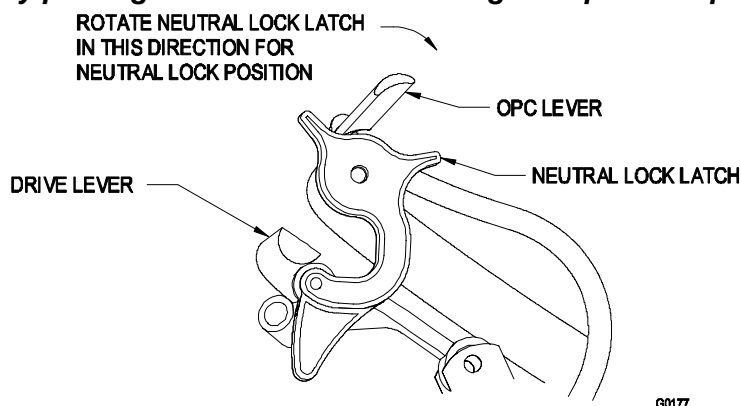
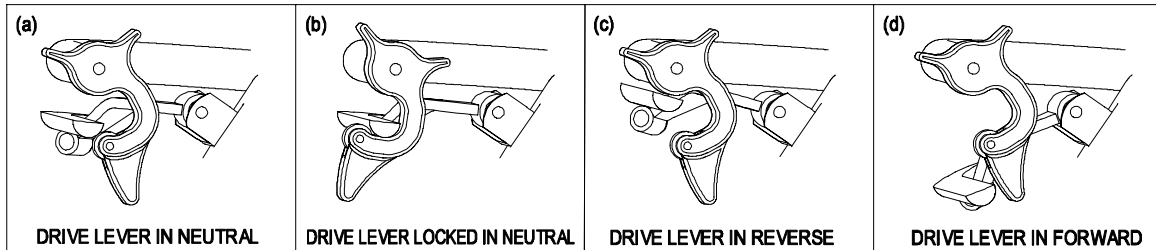

FIGURE 1
FIGURE 2
3.1.2 Operator Presence Control (OPC) Levers: Located on the upper handle assembly directly above the handle grips (See Figure 1). **When these levers are depressed, the OPC system senses that the operator is in the normal operator's position. When the levers are released, the OPC system senses that the operator has moved from the normal operating position and will kill the engine if either the speed control lever is *not in the neutral* position or the *PTO is engaged*.**
- 3.1.4 **Drive Levers:** Located on each side of the upper handle assembly directly below the handle grips (See Figure 1). These levers individually control the speed and direction of each drive wheel. When the speed control lever is moved out of the neutral position and the neutral lock latches are moved into the drive position, as shown in Figure 2, and the drive levers are released, the drive wheels are engaged in the forward direction.
- 3.1.5 **Neutral Lock Latch:** Located at the end of the handles. The purpose of these latches is to allow the operator to lock the drive levers in a "neutral" position where neither of the drive wheels are engaged in either a forward or reverse direction. (See Figure 1).
To lock the drive levers in “**neutral lock**”, squeeze the drive levers to the “neutral” position See Figure 2 (a). (Do Not squeeze at the drive levers all the way back as this will cause the drive wheels to go into the full reverse direction). Place thumbs on the inner thumb lobe of the neutral lock latches and rotate them to the “neutral lock” position. See Figure 2 (b). Release the drive levers.
(or the index finger on the front lobe) and rotate them from under the drive levers. **Slowly** and **carefully** release the drive levers. See Figure 2 (d).
To place the drive levers in the “reverse” position, squeeze the drive levers past the neutral position. See Figure 2 (c).
For reverse: Squeeze both drive levers into the reverse position. See Figure 2 (c).
3.3.6 **To Stop:** Squeeze drive levers back to the “neutral” position. See Figure 2 (a) Move neutral lock latches into the “neutral lock” position. See Figure 2 (b) and release drive levers. Move the speed control lever to the neutral position.